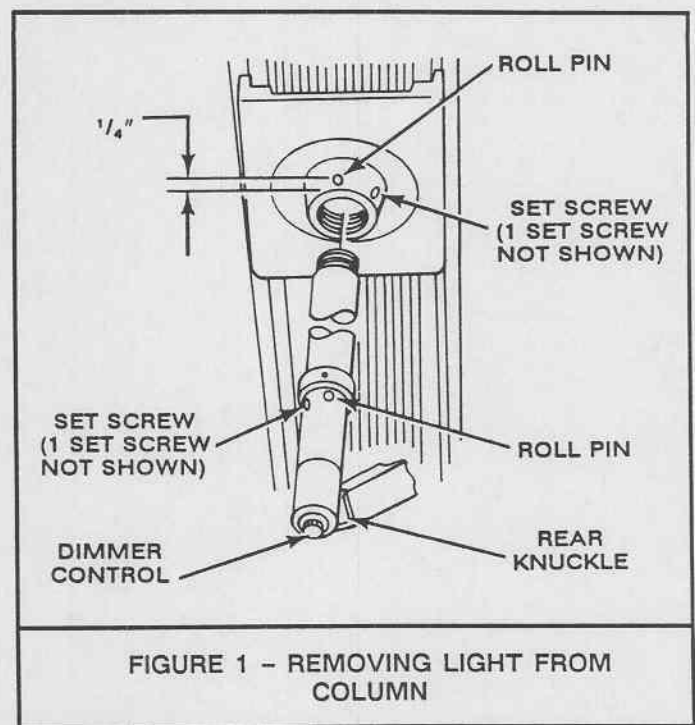

FIGURE 1 – REMOVING LIGHT FROM COLUMN
- F. Remove light from column by removing set screw and stop screw, and unscrew arm mounting collar counterclockwise as viewed from below (Figure 1). Pull phase control out of column. If roll pin was driven into column, locate and discard it. Disconnect Mate-n-Lok® connector and measure voltage at pins 3 and 4. If 27 VAC is present, phase control is defective